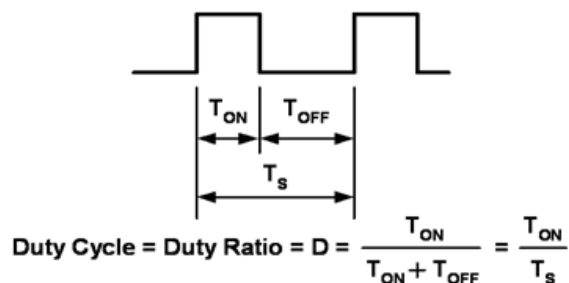

Figure 12.
generate audible sound. Dimming is achieved by turning the LEDs on and off for a portion of a single cycle. This on/off cycle is called the Duty cycle (D) and is expressed by the amount of time the LEDs are on (T_{ON}) divided by the total time of an on/off cycle (T_s) (Figure 12).